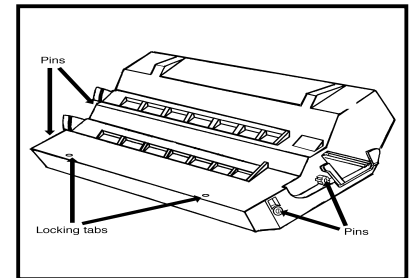

Figure 1
2. Remove the outer shell by first lifting the left, and then the right end. There are also two front locking tabs that have to be unsnapped (Fig 1).